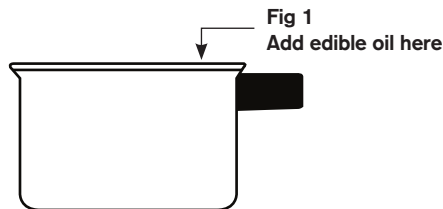

Fig 2
2. The amount of food and water put in the cooker can not exceed $\frac{2}{3}$ of the cooker's volume, see Fig 2, water or soup can not be less than 200 millilitres (about 2 bowls).